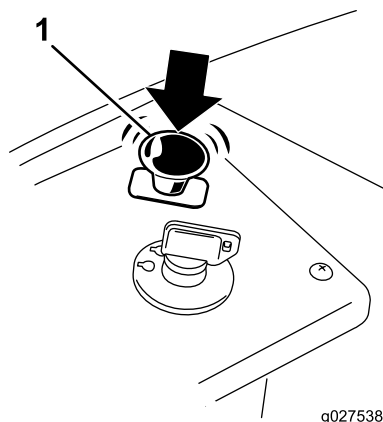

Figure 12
1. Disengage the blades by moving the blade-control switch to the OFF position (Figure 12).